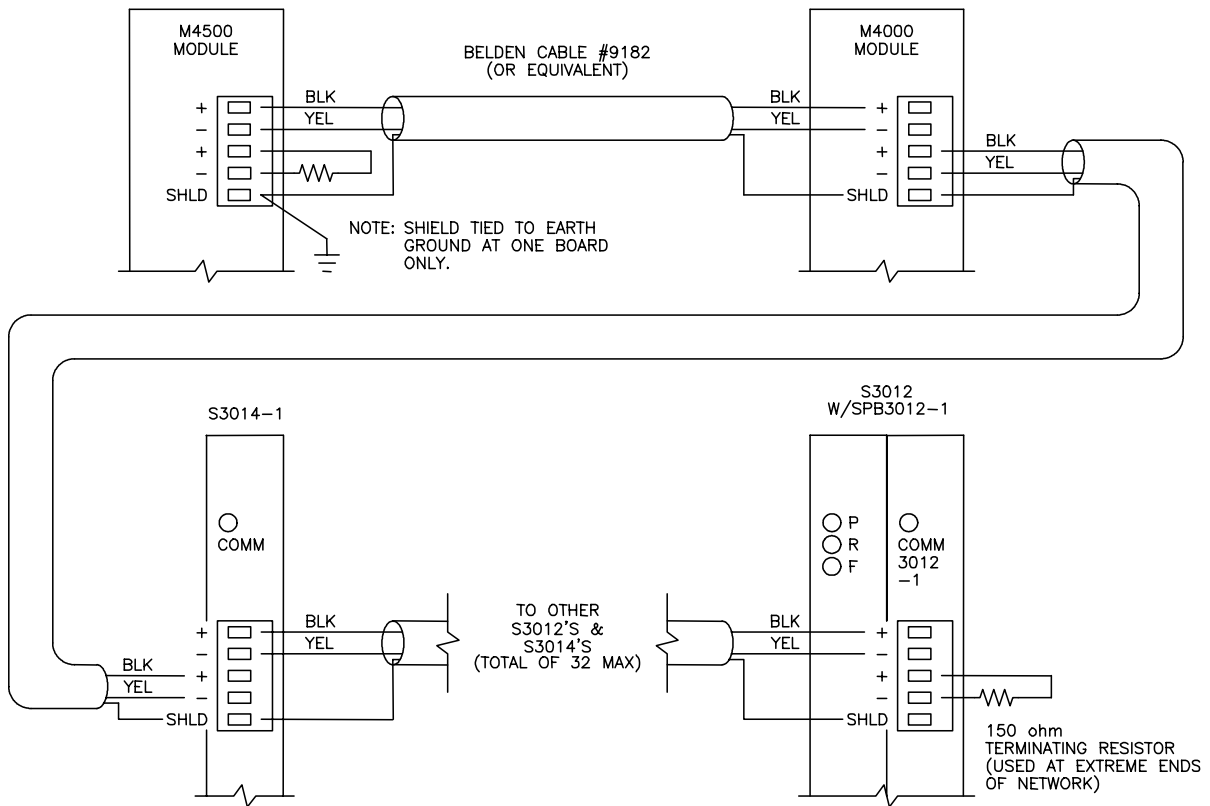

Figure 8.8 - Typical Network Wiring
Refer to figure 8.8 for a typical schematic of the network and for the pin outs of the network interface connectors. When wiring the network, the following rules must be followed:
- 5) The two extreme ends of the network should be terminated with 150 ohm resistors as shown in figure 8.8.